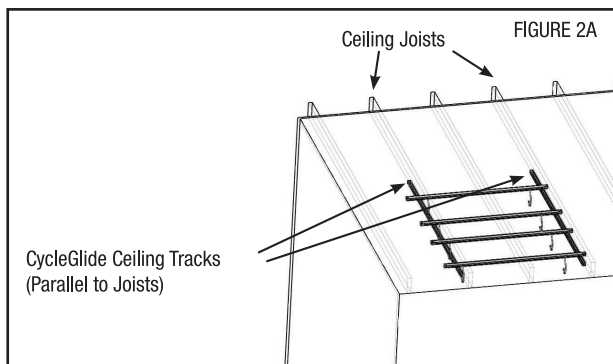

FIGURE 2A
3. Determine your installation method (Figure 2A or 2B)